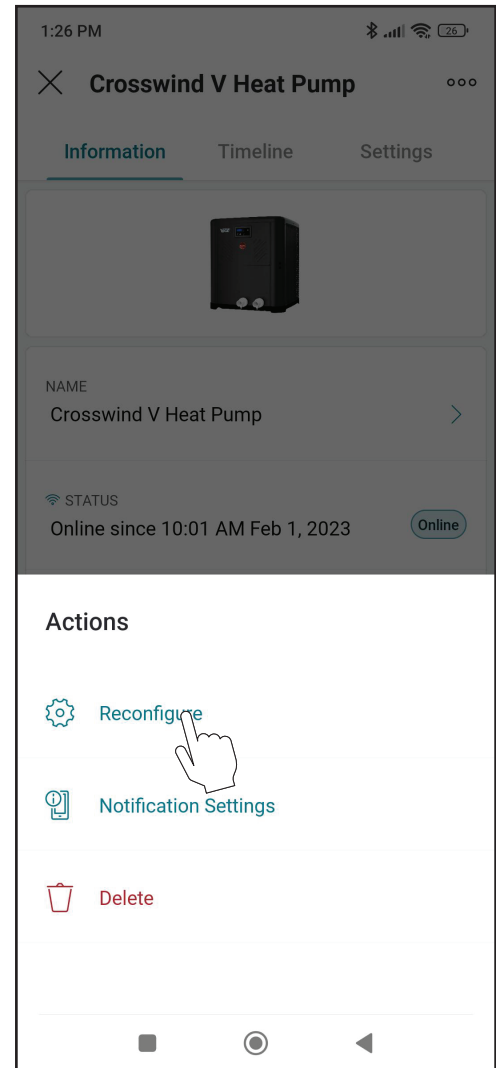

Figure 104. Select Reconfigure
3. Click in the 3-dots icon again. The action menu is displayed. In “Actions” menu, select the option “Reconfigure” as shown in **Figure 104**.